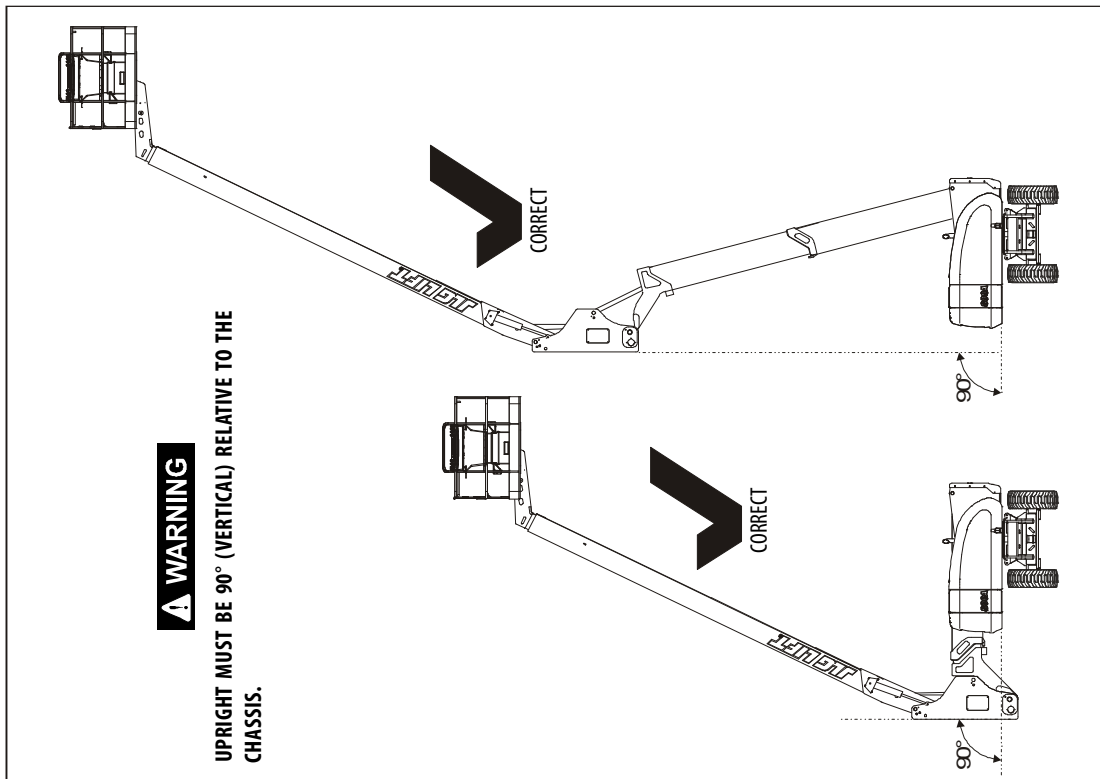
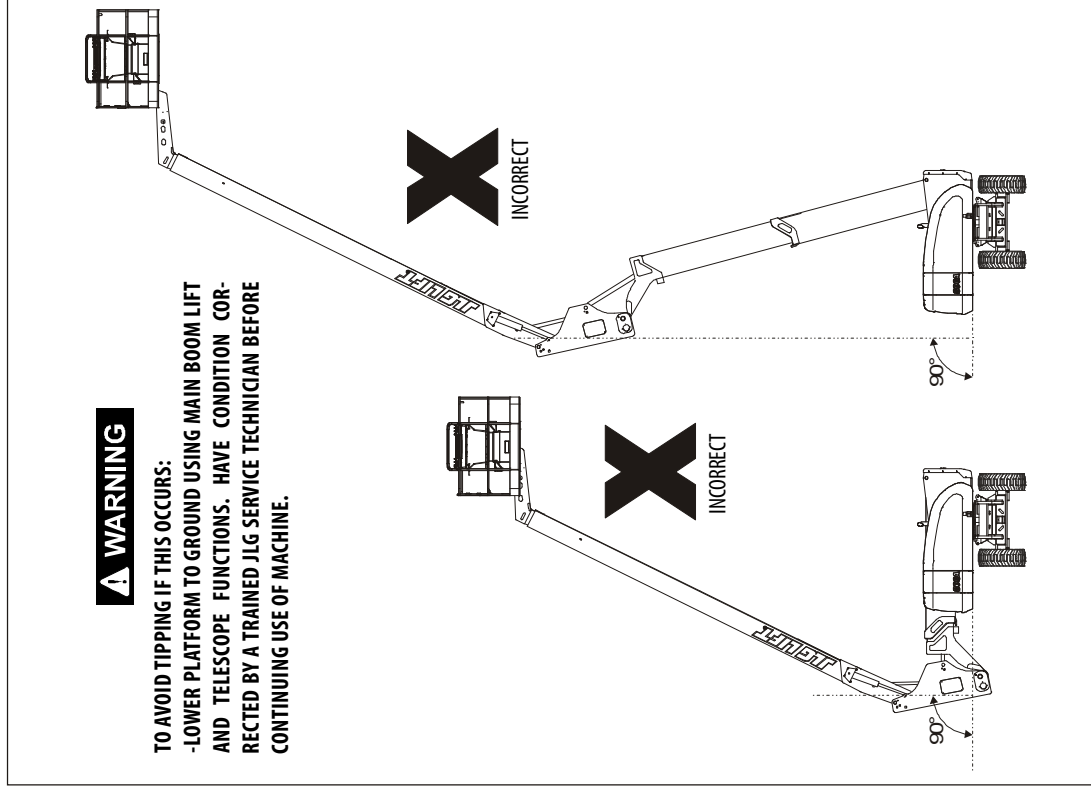

Figure 2-3. Boom Upright Positioning - Correct
Figure 2-4. Boom Upright Positioning - Incorrect
- c. Raise the tower base boom to approximately 40 degrees, then lower the tower boom back to the below horizontal position. While raising and lowering the tower boom assembly, observe the position of the upright. Ensure that the upright remains vertical relative to the chassis. Refer to Figure 2-3. and Figure 2-4.